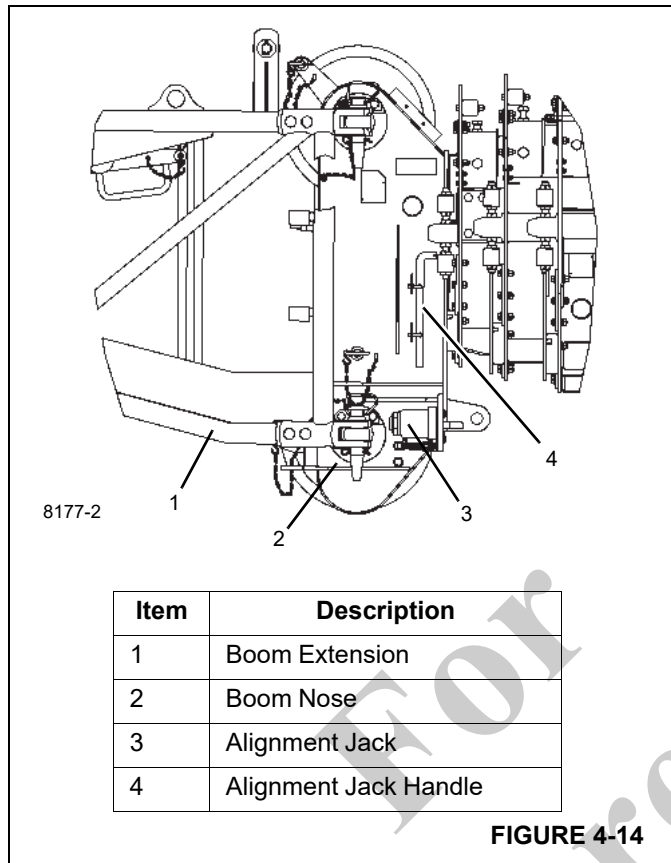

FIGURE 4-14
22. Using the jack handle (4, Figure 4-14) stored on the left side of the boom nose, extend boom extension alignment jack (3, Figure 4-14) until the lower left anchor and attachment fittings of the boom extension base section and boom nose are aligned. Install attachment pin and secure with retaining clip.